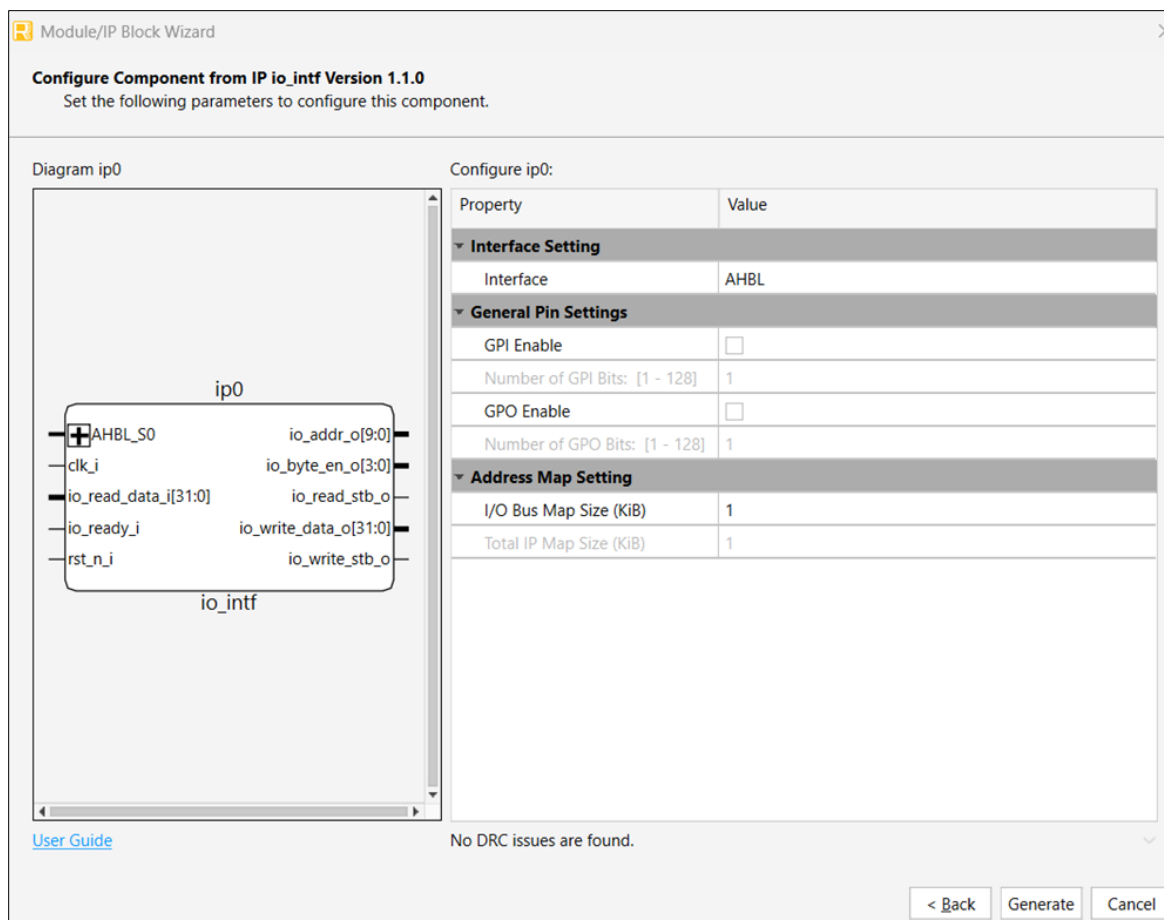

Figure 7.2. IP Configuration
3. In the next **Module/IP Block Wizard** window, customize the selected I/O Interface IP using drop-down lists and check boxes. Figure 7.2 shows an example configuration of the I/O Interface IP. For details on the configuration options, refer to the IP Parameter Description section.